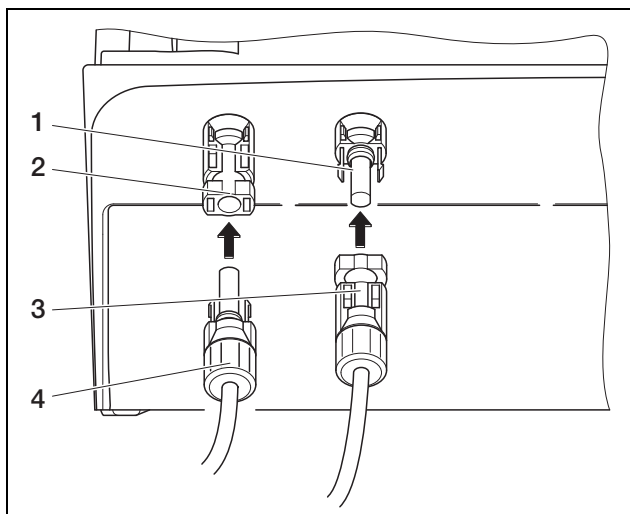

Fig. 18: Connecting the PV string
- Insert the PV string plugs until they engage in the corresponding counterparts on the inverter (figure 18).